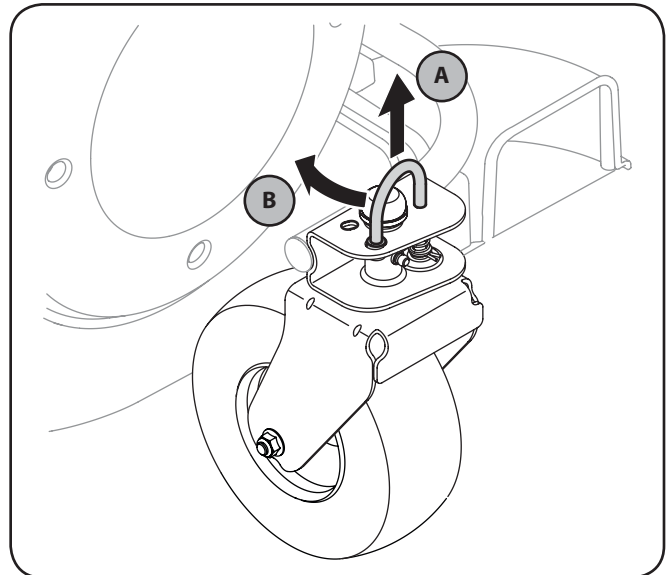

Figure 5-2
1. To lock the caster, lift the lock pin and rotate it rearward, releasing it into the larger hole. See Figure 5-2 .